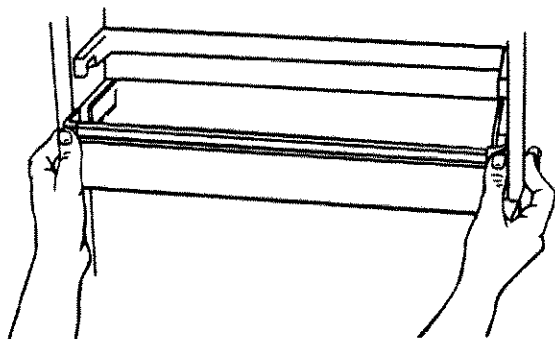

Figure 26
- To reinstall, use one hand at each side of bucket. Slide bucket into grooves on door. Push gently with thumbs until tabs snap and lock into place. See Figure 26.